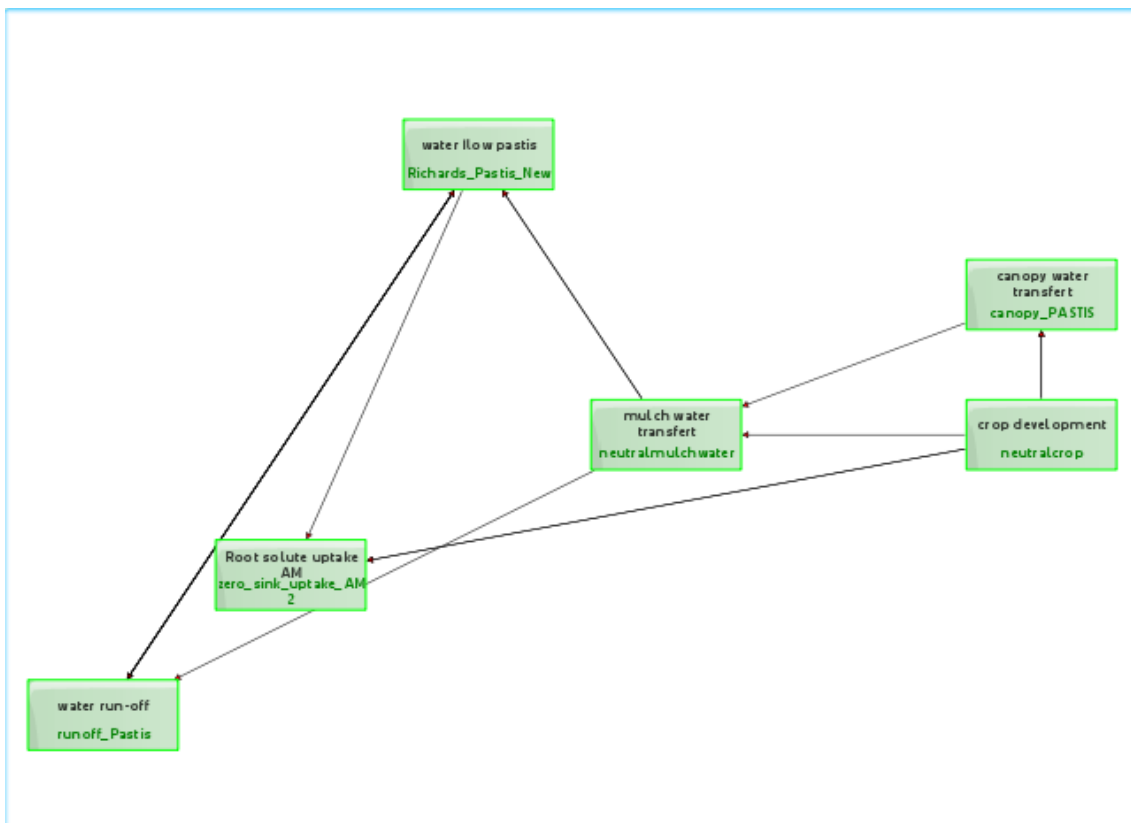

Figure 34: Graphic representation of a loop between modules
3. **Graphic part** The modules to be scheduled are shown graphically as well as their connections. An arrow indicates the direction of the connection. If a double arrow exists (case of the “runoff\_Pastis” and “Richards\_Pastis\_New” modules in the example of the figure 34), it means that there is a direct loop between these two modules.